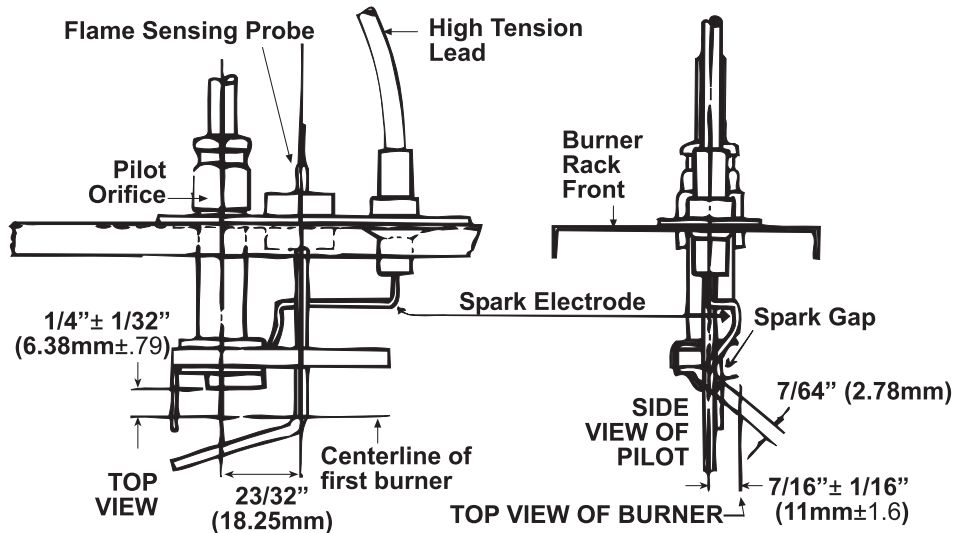

Figure 20. Pilot Assembly Spark Gap
4. Check the spark gap (see Figure 20), which should be maintained to 7/64 inch.
- c. Verify that pilot spark gap (see Figure 20) is approximately 7/64 inch.